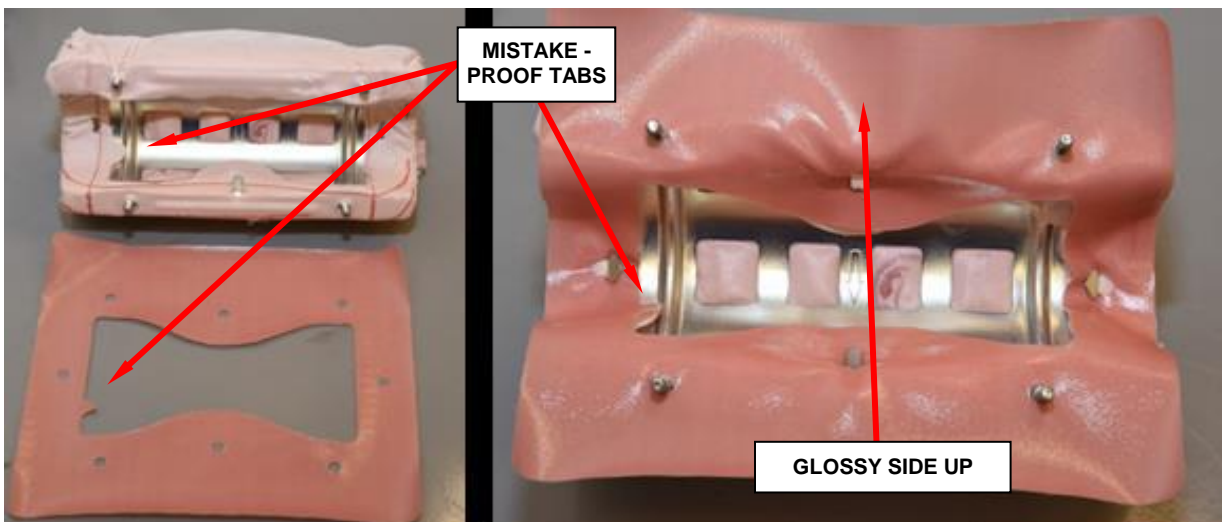

Figure 53 – Fabric Gasket to Cushion
- f. Place the fabric gasket, glossy side up, onto cushion. Mistake-proof tab should be aligned to the tab on the cushion (Figure 53).
18. Using a trim stick C-4755 or equivalent, release the right and left side upper A-pillar trim then release the airbag tether and remove the trim (Figure 53).